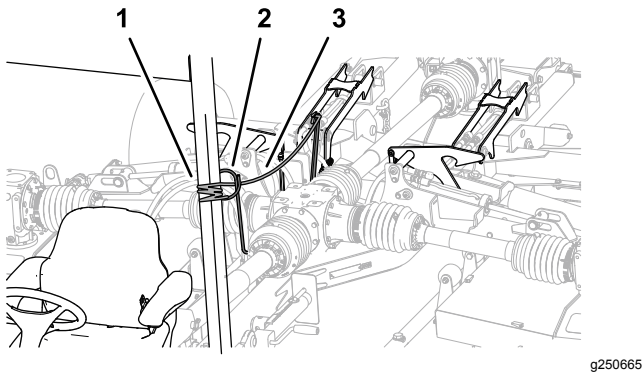

Figure 28
1. Route the deck-lock rope from the hose guide toward the operator's seat (Figure 28).
2. Tie the rope to the fixed-chassis component of the tow vehicle such as the ROPS tube (Figure 28).